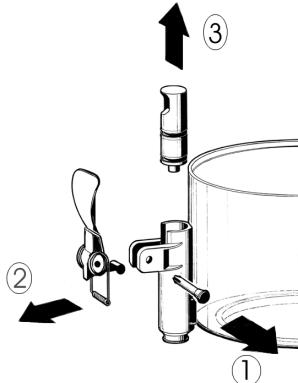

figure 1
- 3** Dismantle the faucet following the sequence shown (see fig. 1).
- 3** Reassemble the faucet assembly on the container in the opposite way to which it was dismantled (see fig. 1).